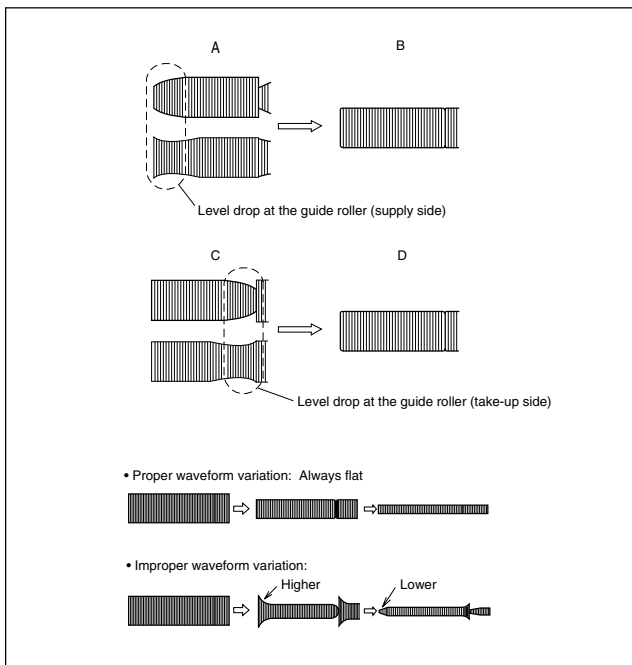
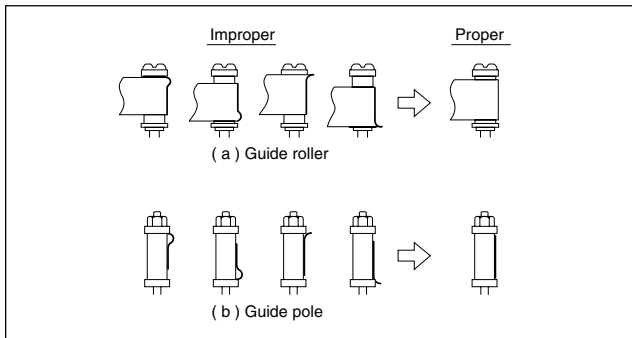

Fig. 2-5-1c
Fig. 2-5-1d
- (6) Reduce the V.PB FM waveform by the tracking operation. If a drop in level is found on the left side, turn the guide roller of the pole base assembly (supply side) with the roller driver to make the V.PB FM waveform linear. If a drop in level is on the right side, likewise turn the guide roller of the pole base assembly (take-up side) with the roller driver to make it linear. (See Fig. 2-5-1c.)
- (7) Make sure that the V.PB FM waveform varies in parallel and linearly with the tracking operation again. When required, perform fine-adjustment of the guide roller of the pole base assembly (supply or take-up side).
- (8) Unload the cassette tape once, play back the alignment tape (A1) again and confirm the V.PB FM waveform.
- (9) After adjustment, confirm that the tape wrinkling does not occur at the roller upper or lower limits. (See Fig. 2-5-1d.)